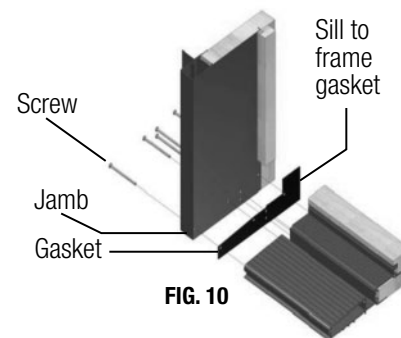

FIG. 10
- D) Attach one gasket to each end of sill before attaching jamb. Attach the jambs to the sill with the 2-1/2" x #8 screws provided. (Fig. 10)